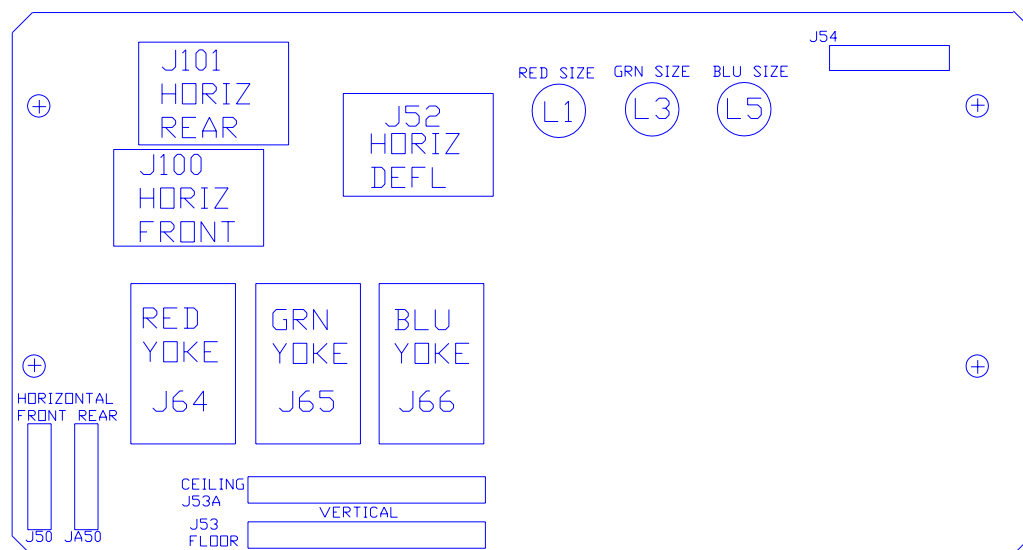

Figure 4-10. Scan Reversal PCB.
4. Remove the 4 pozidrive screws (*Figure 4-10*) and lift the board out.